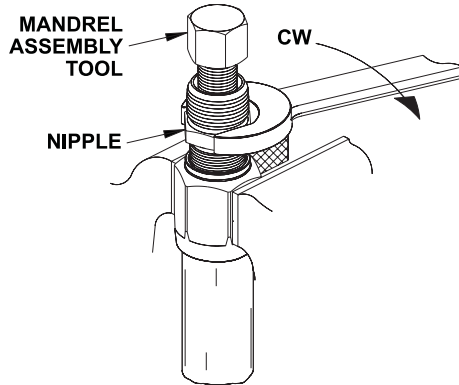

FIG. 2
Step 6: Insert the Assembly Tool into the Nipple, (See Fig. 2), and screw the nipple clockwise (CW) into the Socket until the shoulder of the Nipple touches the end of the Socket.